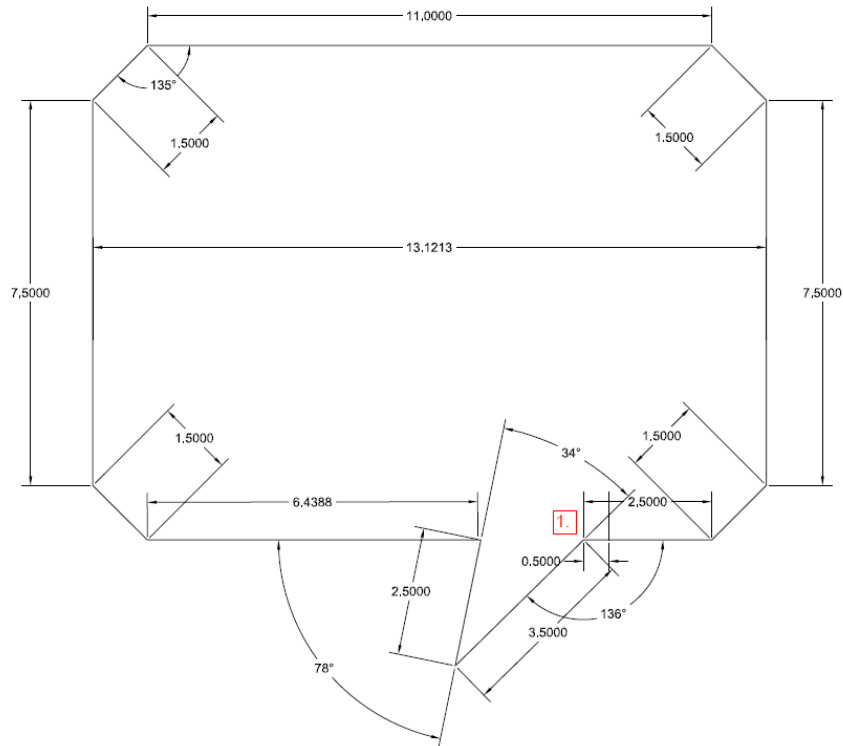

Figure 1
1. We began by drawing out our speech bubble shape in AutoCAD to get the measured lengths and angles we would need. (Fig 1) Mark out these dimensions with strips of tape on the sheet metal, starting at corner (1.) and indicating which direction the metal should be bent at each point. Once all the segments are marked, there will be about an inch of material remaining; this will allow the metal to overlap itself and be fastened together. Using a metal brake, carefully bend the metal at each corner indicated; use a protractor if necessary to verify angle measurements. Once the shape is complete, match up the perforation of the overlapping material and use four of the screws and nuts to hold the shape together.